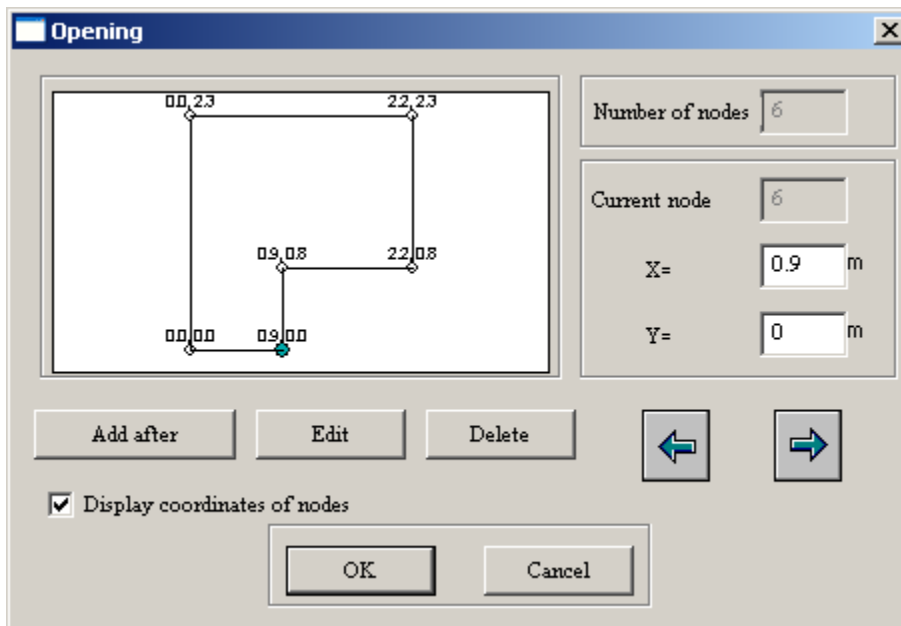

Figure 1.6.7 Opening dialog box
- in the **Opening** dialog box (see Fig.1.6.7), define the following parameters: